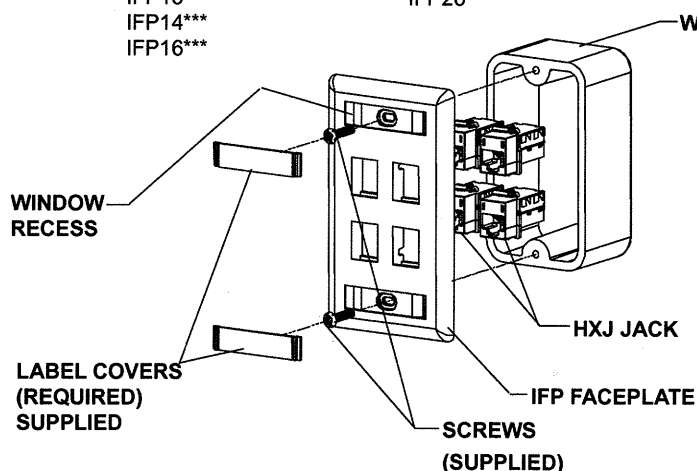

FIGURE 2
3. INSERT LABELS AND COVERS OVER SCREWS: (FIGURES 2 & 3)